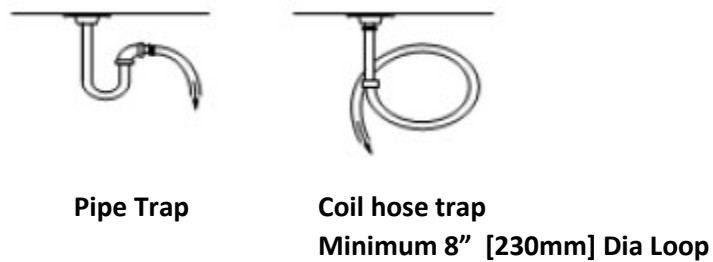

Figure 5: P-Trap Options
2. Prime the P-trap with the metalworking fluid that will be collected to avoid air being drawn through the plenum drain. See Figure 5.